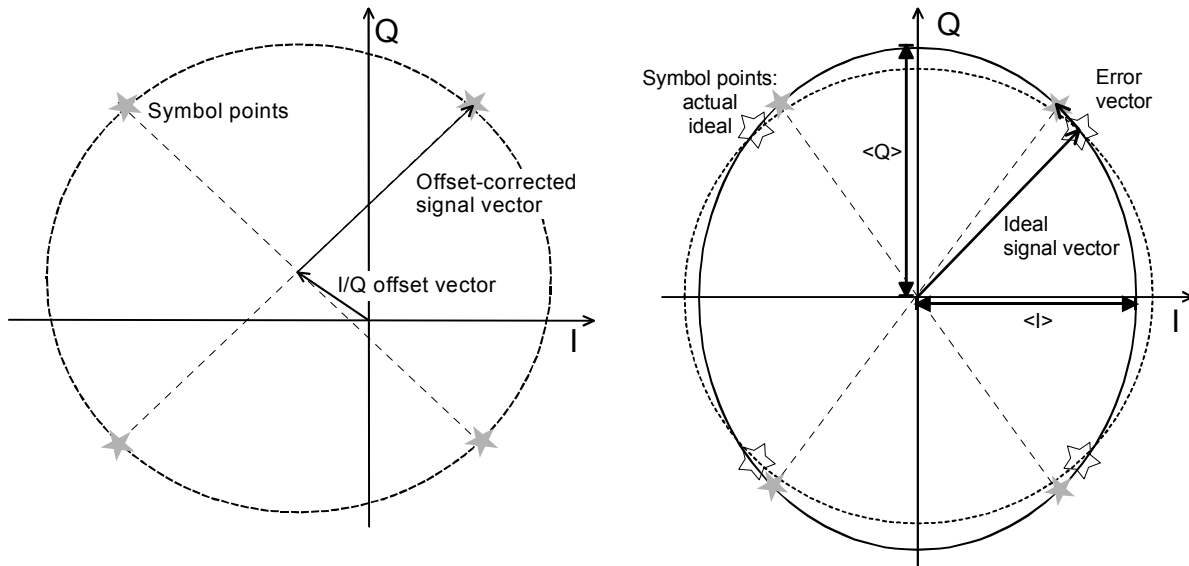

Fig. 4-15 Modulation errors in the I/Q constellation diagram
I/Q Origin Offset Origin offset in the I/Q constellation diagram reflecting a DC offset in the baseband signal (see Fig. 4-15 on page 4.43 and Equation 4-1). The origin offset corresponds to a RF carrier feedthrough in spectral representation.
I/Q Imbalance Amplitude difference between the in-phase (I) to the quadrature (Q) components of the measured signal, normalized and logarithmized (see Fig. 4-15 on page 4.43 and Equation 4-2). The I/Q imbalance corresponds to an unwanted signal in the opposite sideband in spectral representation.
Fig. 4-15 is an idealized representation of the modulation errors where the effects of a pure origin offset (left diagram) and of a pure I/Q imbalance (right diagram) are completely disentangled. The I/Q offset in dB is the logarithmic ratio of the I/Q offset vector (i.e. the estimated DC-offset of the measured signal) to the average offset-corrected signal vector:
Note: *The I/Q imbalance is always calculated without origin offset regardless of the Analysis Mode set (see Fig. 4-15). Conversely, the waveform quality is always calculated with origin offset.*